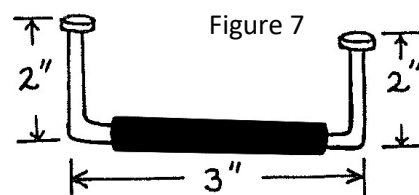

Figure 7
- ✎ Make the core by bending two 4 inch nails in the middle at right angles. Space the heads about 3 inches apart to form a horseshoe. Wrap together with two layers of electrical tape as shown in *Figure 7*.